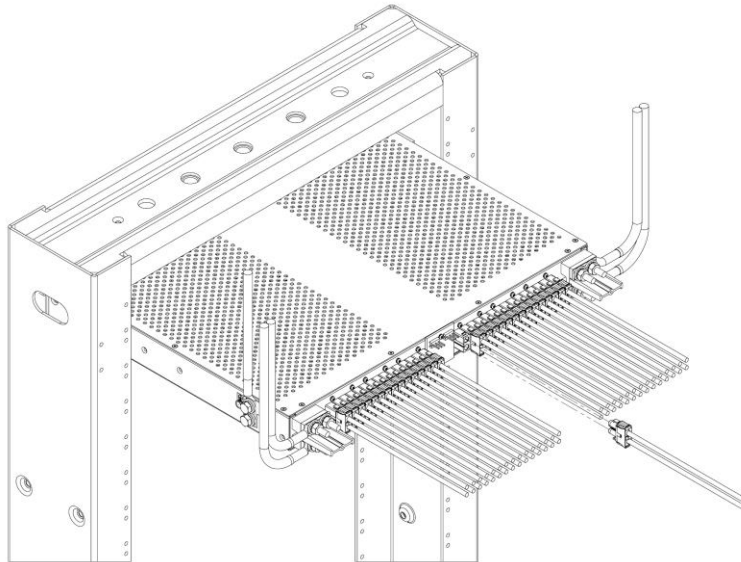

Fig. 2-13: Insert Connector
39. Insert the connector into the panel as shown in Fig. 2-13. Ensure that the plug latches into place. Then connect other end of output wire to load.